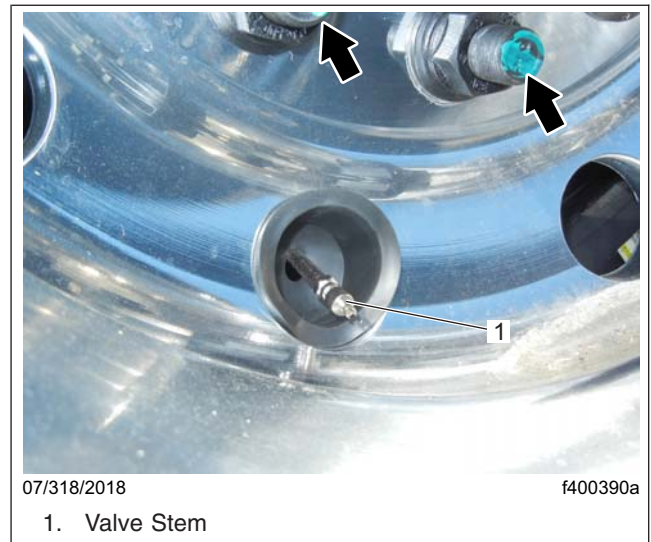

Fig. 13, Marking Wheel Studs
- Mark the two studs closest to the valve stem as shown in **Fig. 13**, for proper wheel assembly location when reinstalling the wheel assembly on the hub.